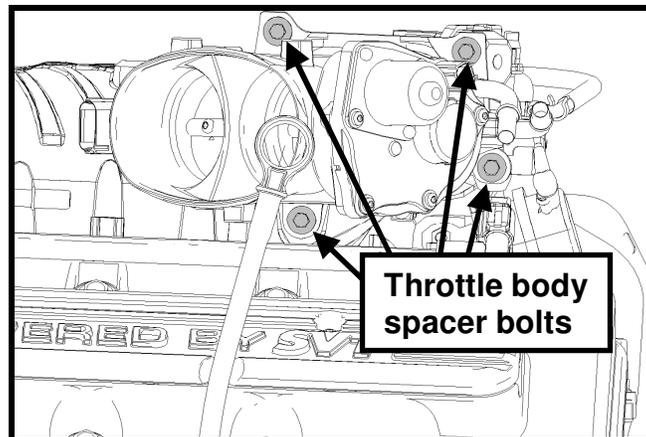

Fig. 25
- STEP 9:** Re-install the stock throttle body spacer assembly to the supercharger using the stock bolts and torque to 10 Nm (88 lb in) (See Fig. 25).